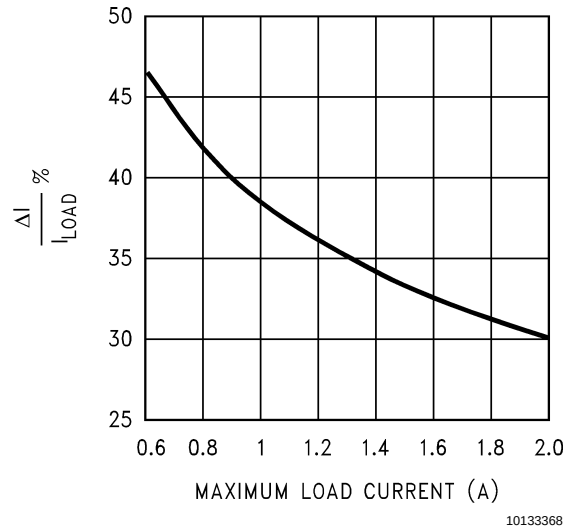

FIGURE 7. Current Ripple Ratio
4. The nomographs were generated by allowing a greater amount of percentage current ripple in the Inductor as the maximum rated load decreases (see *Figure 7*). This was done to permit the use of smaller inductors at light loads. *Figure 7* however shows only the 'median' value of the current ripple. In reality there may be a great spread around this because the nomographs approximate the exact calculated inductance to standard available values. It is a good idea to refer to AN-1197 for detailed calculations if a certain maximum inductor current ripple is required for various possible reasons. Also